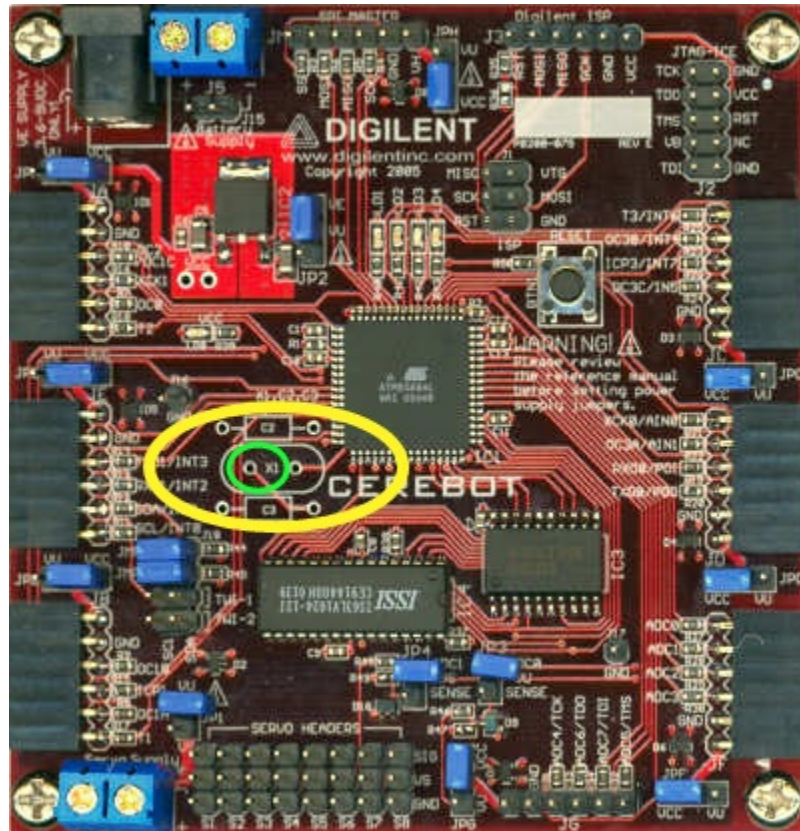

Figure 1
- 0-p 2Mhz square wave from the function generator to the solder pad farthest from the AVR chip on the inoperative board (see Figure 1).
from the AVR chip on the inoperative board (see Figure 1). This wire will now carry a 4Mhz clock signal from the working Cerebot to the inoperative Cerebot.